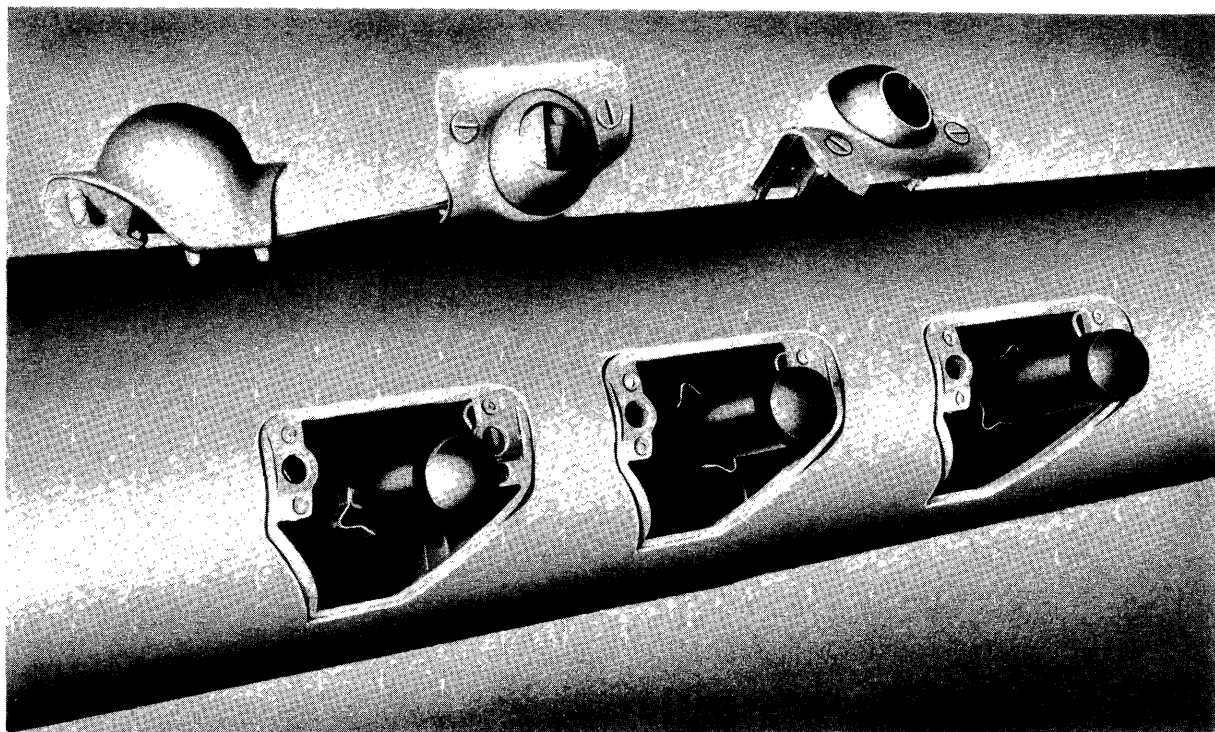

Figure 97 - Blast Tube Fairings Removed
- (b) **Figure 97.** - Remove blast tube fairings, using screw driver.